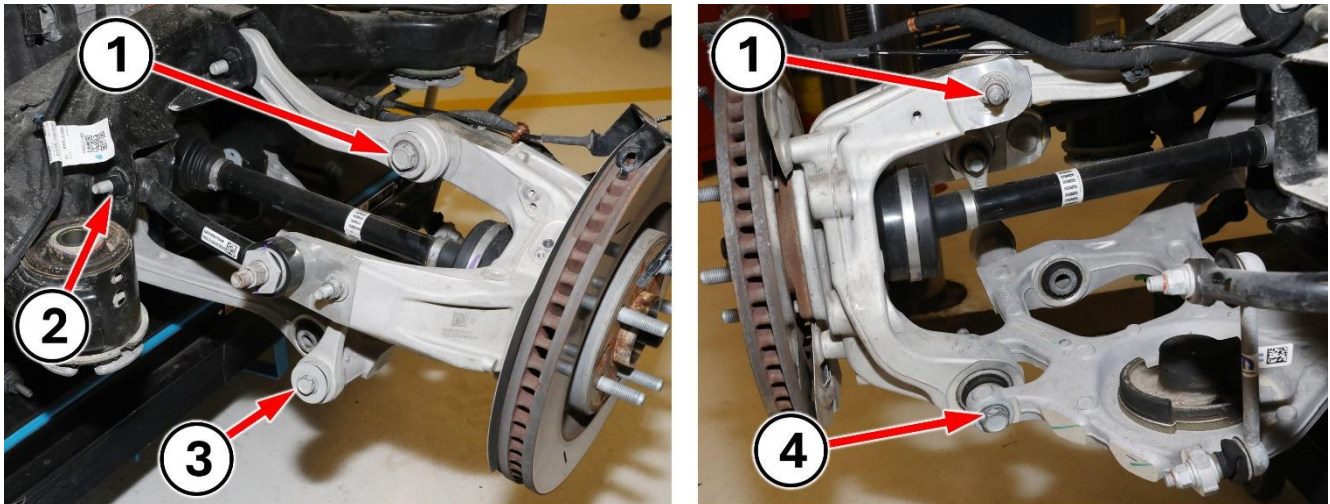

Figure 26 – Suspension Fasteners
- 60. **Both right and left sides:** Loosen but do not remove the Lower Control Arm to Knuckle bolt (Figure 26).
- 61. **Both right and left sides:** Remove the lower link bolt (Figure 26).
- 62. **Both right and left sides:** Remove the toe link to cradle bolt (Figure 26).
- 63. **Both right and left sides:** Remove the upper control arm to knuckle bolt and **DISCARD** the nut (Figure 26).